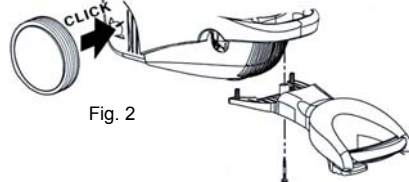

Fig. 2
2. Snap wheels onto the unit. (Fig. 2)
3. Attach the handle to the unit with the screw supplied using a Phillips screwdriver. (Fig. 2)